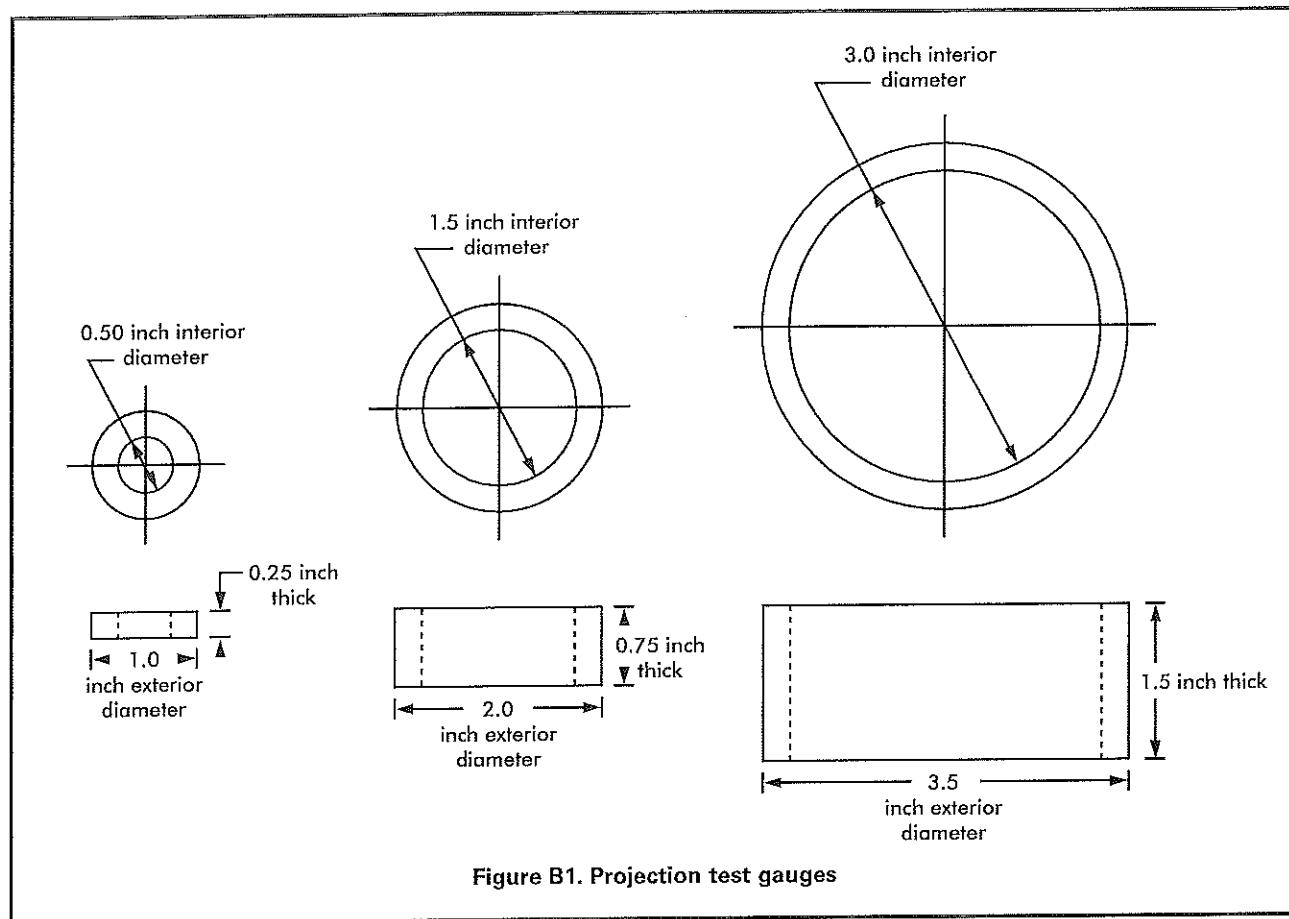
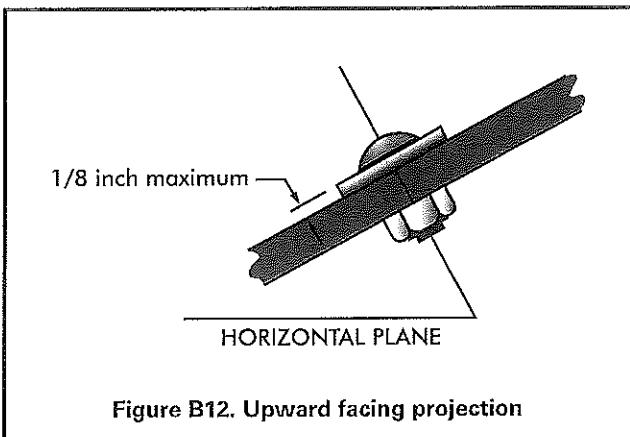

Figure B1. Projection test gauges
Figure B12. Upward facing projection
Step 1: Successively place each projection test gauge (see Figure B1) over any projection
To minimize the likelihood of clothing entanglement on slides, projections that (1) fit within any one of the three gauges shown in Figure B1 and (2) have a major axis that projects away from the slide bed should not have projections greater than 1/8 inch perpendicular to the plane of the surrounding surface (Figure B12).
Step 2: Determine which, if any, fit inside the projection test gauges (Figure B1).